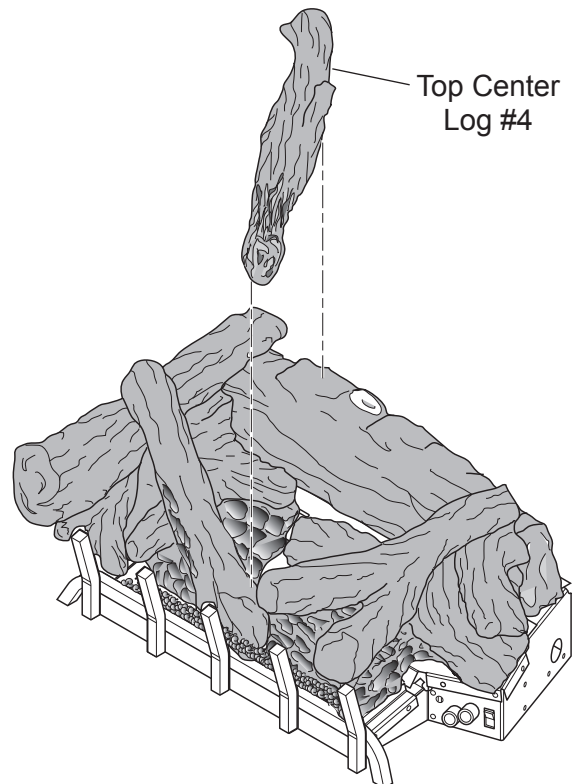

Figure 29 - Installing Top Center Log (#4)
4. Rest end of top center log (#4) on rear log. Place front end of top center log where right and left cluster logs meet. See Figure 29.